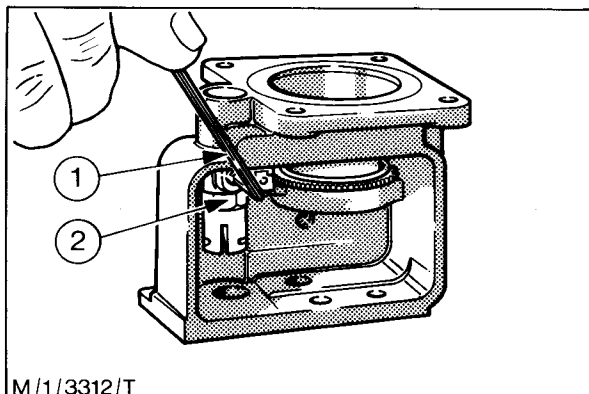

Fig. 38 - Removing the Maximum Fuel Screw Assembly
6. Remove the Allen screw retaining the maximum fuel screw assembly (Fig. 38).